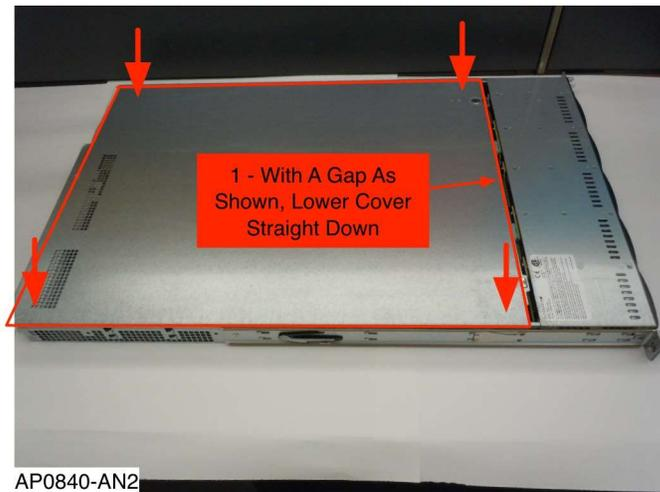

Figure 13: Installing Cover - Step 1
- 1.9 Replace the metal top cover by positioning the cover above the chassis with the cover aligned so it will leave a gap between the front cover edge and the rear-most edge of the permanent chassis top front area, then lower the cover straight down. See Figure 13.